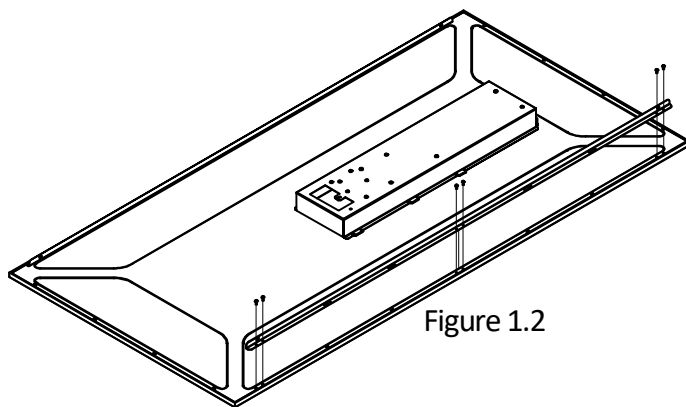

Figure 1.2
3. Place the (2) suspension brackets along the length of the side aligning the holes.
4. Screw the (12) screws included in the kit in the empty holes. **Figure 1.2**